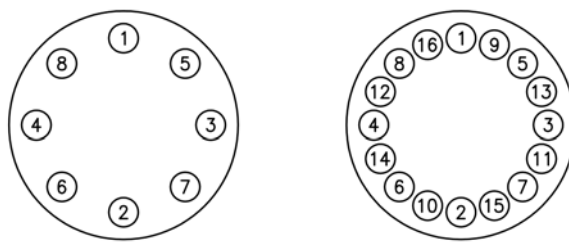

FIG.23 – Typical Torquing Sequence
2. The pattern in which bolts are tightened is extremely important. If performed improperly tightening can cause the flange to move out of parallel. A staggered crisscross-torquing pattern, shown in the following figure 23, must be used to tighten the bolts. No more than one third of the final torque should be achieved during a first step.